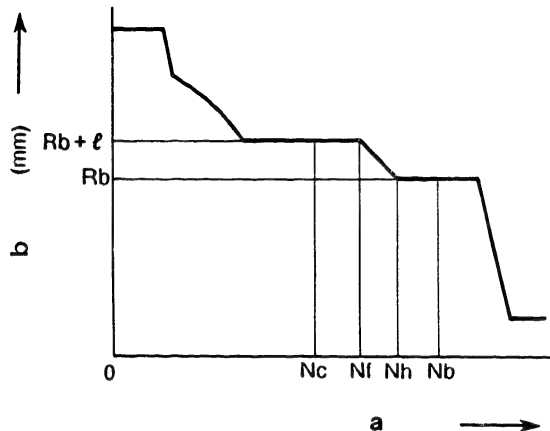

Fig. 164
3. Slowly increase the pump speed from "Nc rpm" and adjust the screw so that the torque control spring starts to take effect at "Nf rpm" (refer to Figs. 164 and 165).